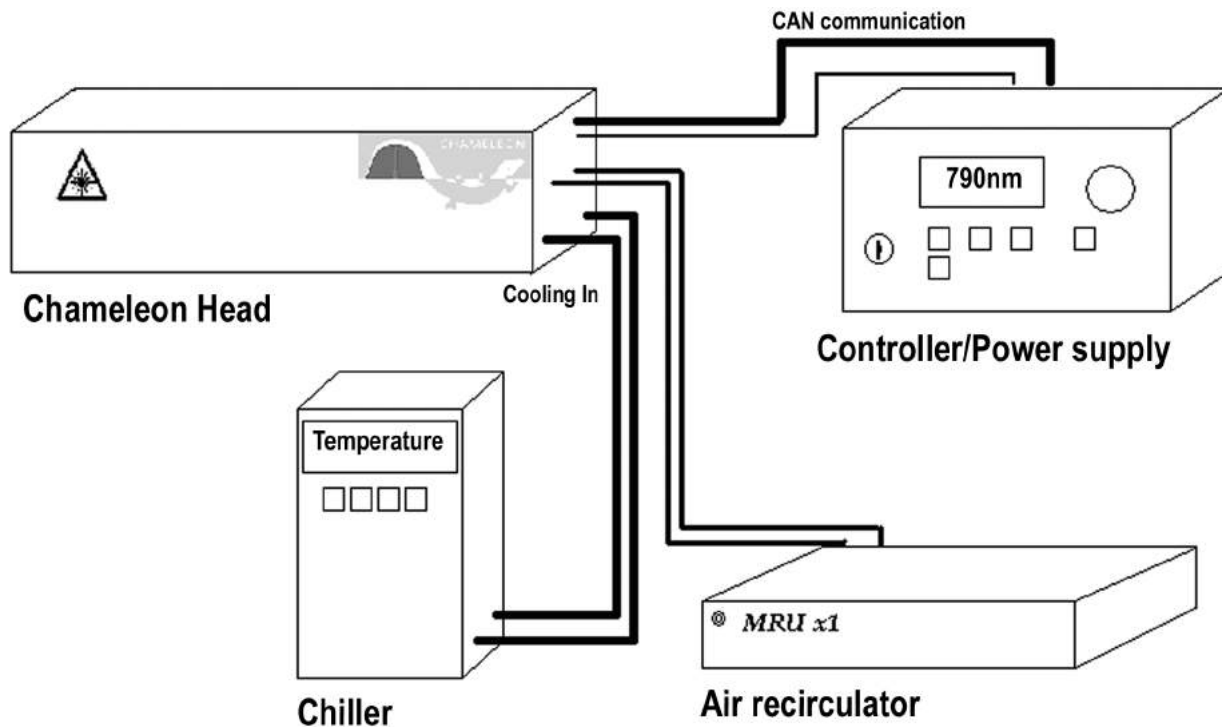

Figure 1.3-1. Chameleon System
The Chameleon has four (4) basic system components (see Figure 1.3-1). The two main components, the head and power supply are shipped together for quality and performance reasons. The chiller and air recirculator are shipped separately, but should be kept with original system they where shipped with, so installation records are kept valid.